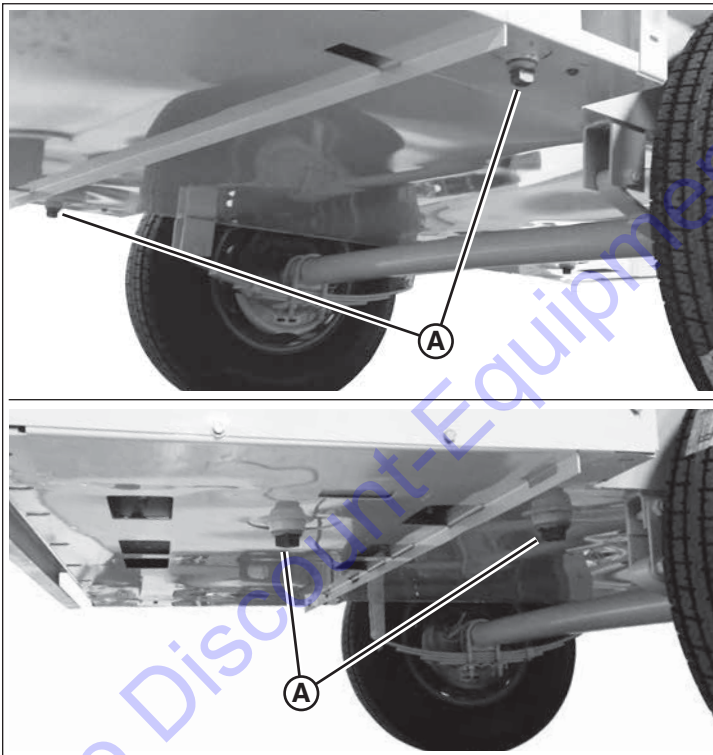

Figure 50
1. Position a suitable container beneath any of the four fluid containment drains (A, Figure 50), located beneath the unit toward the rear. See also ‘Features and Controls’.